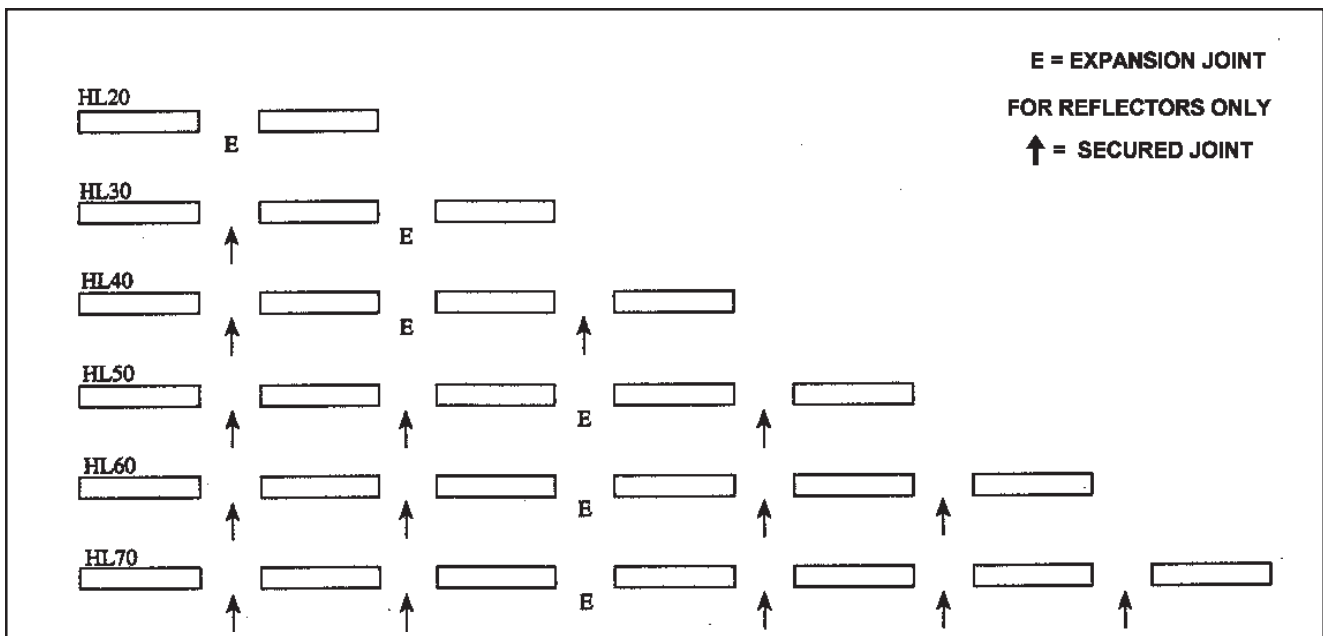

Figure 2-14
3. Secure reflectors together with sheet metal screws at points indicated by arrows (See Figure 2-14). Make sure to leave an expansion joint.